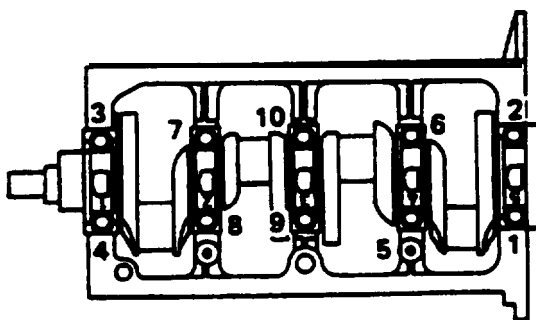

FIGURE 3-79. Crankshaft Bearing Cap Bolt Loosening Sequence
- w. Loosen ten crankshaft bearing cap bolts a little at a time in sequence shown in FIGURE 3-79.